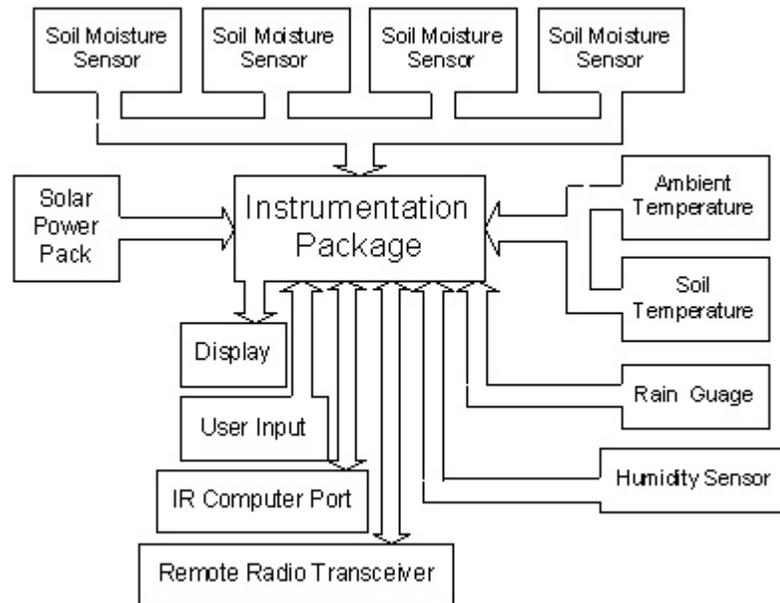

Fig. 1. Block diagram of Agriculture Field Instrument
An instrumentation package is needed to provide soil and crop data for closed loop control of a spatially variable center pivot irrigation system. The instrumentation package is to be solar powered and radio linked to a remote receiver for data acquisition and display. An alternate infrared (IR) link for communication with a palm-top or laptop computer is optional. The system must be able to store 12 weeks of environmental data including a time stamp that is Y2K compliant. All data is sampled and stored at a rate of two samples per hour. Fig. 1 illustrates one possible concept of the instrumentation needed for this system.